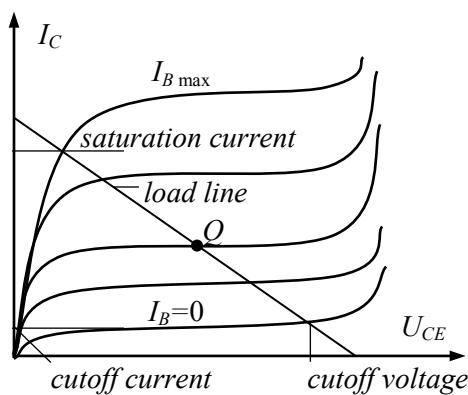

Fig. 1.25
Fig. 1.25 illustrates the set of collector characteristic curves under the different values of  $I_B$ . The bottom curve when there is no base current limits a *cutoff region* of the transistor where resistance is high, and the small collector current is called a *collector cutoff current*. As usual, a designer never allows voltage to get close to the maximum breakdown voltage  $U_{CE}$ , which is given in the data sheets for the transistor with an open base ( $I_B = 0$ ).
A safety factor of two is common to keep  $U_{CE}$  well below the rating value. In digital circuits, the transistor may operate in the cutoff region. The upper curve in Fig. 1.25 limits the maximum collector rating. At this maximum, the transistor is in saturation and there is no sense to raise the base current more than  $I_{B \text{ max}}$ .
**Load line.** A line in Fig. 1.25 drawn over the collector curves to show every possible operating point of a transistor is called a *load line*. Every transistor circuit has a load line. The top end of the load line is called *saturation*, and the bottom end is called *cutoff*. The first expresses the maximum possible collector current for the circuit, and the last gives the maximum possible collector-emitter voltage. The key step in finding the saturation current is to visualize a short circuit between the collector and the emitter.